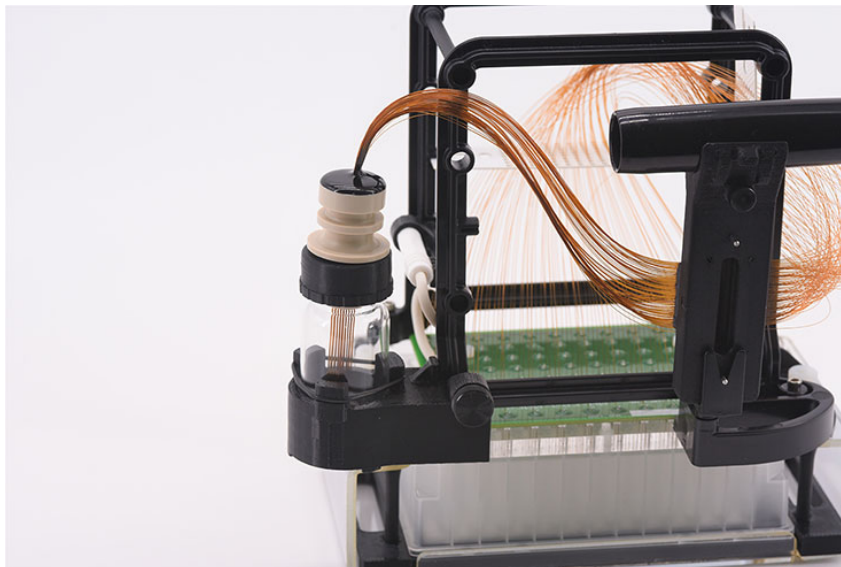

Figure 105 Array docking station with array installed
To see a full image of the array with the array spindle storage device installed, refer to **Figure 105**.
- 8 Remove the capillary array outlet spindle from the black storage plug and place it into the array spindle storage device as shown in **Figure 105**.